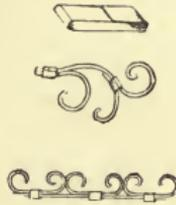

Fig. 9. CLAMP AND CLAMPED WORK.
*Clamps, Clasps, or Binders.* These are much more used in common Italian work than rivets, being easier to apply, and looking quite or almost as well in large or coarse objects. A clamp is simply a narrow strip of iron which is passed or bent very closely round two other strips, so as to bind, tie, or clamp them together. It is like binding two objects with a ring of which the ends are not united. One end of the clamp of course passes over the other. Figs. 9 and 10.